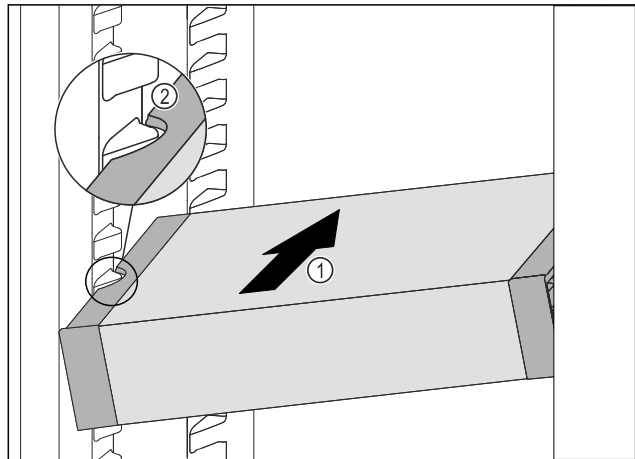

Fig. 117
- ▶ Insert the VarioSafe into the fridge section at an angle Fig. 117 (1) until the recesses in the side Fig. 117 (2) of the VarioSafe are at the level of the support rib in the fridge section.